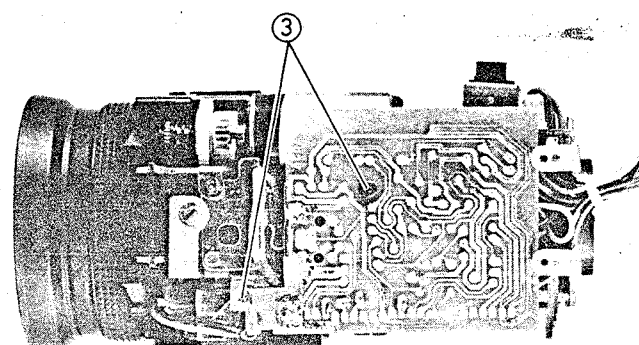

Fig. 2-128 Auto Focus Circuit Board Removal
3. Remove two (2) screws holding the auto focus circuit board. (See Fig. 2-128)
2. Open the auto focus circuit board. (See Fig. 2-128)